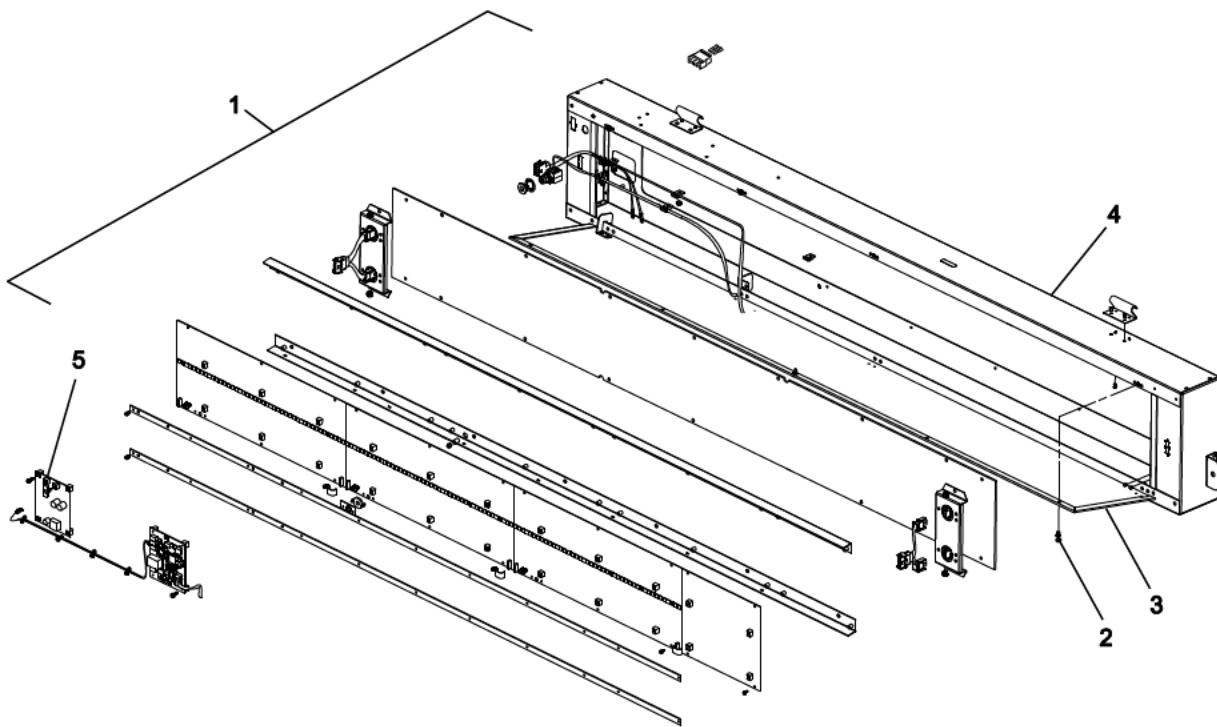

Figure 7-11: Replace Front Destination Sign Power Supply PCB
1. Remove front destination sign assembly (1, Figure 7-11) from its mounted location.
2. Remove ten 6-32 x 5/16 SEM screws (2) that secure backplate assembly (3) to front panel assembly (4).
3. Carefully separate backplate assembly (3) from front panel assembly (4) to access electrical wiring and harnesses.
4. Tag and disconnect electrical wiring connectors from the power supply PCB (5).
5. Remove power supply PCB (5).
6. Install replacement power supply PCB (5) with connectors J1 and J2 upwards.
7. Connect electrical wiring connectors to the power supply PCB (5).
8. Install the backplate assembly (3) to the front panel assembly (4) using ten 6-32 x 5/16 SEM screws (2).